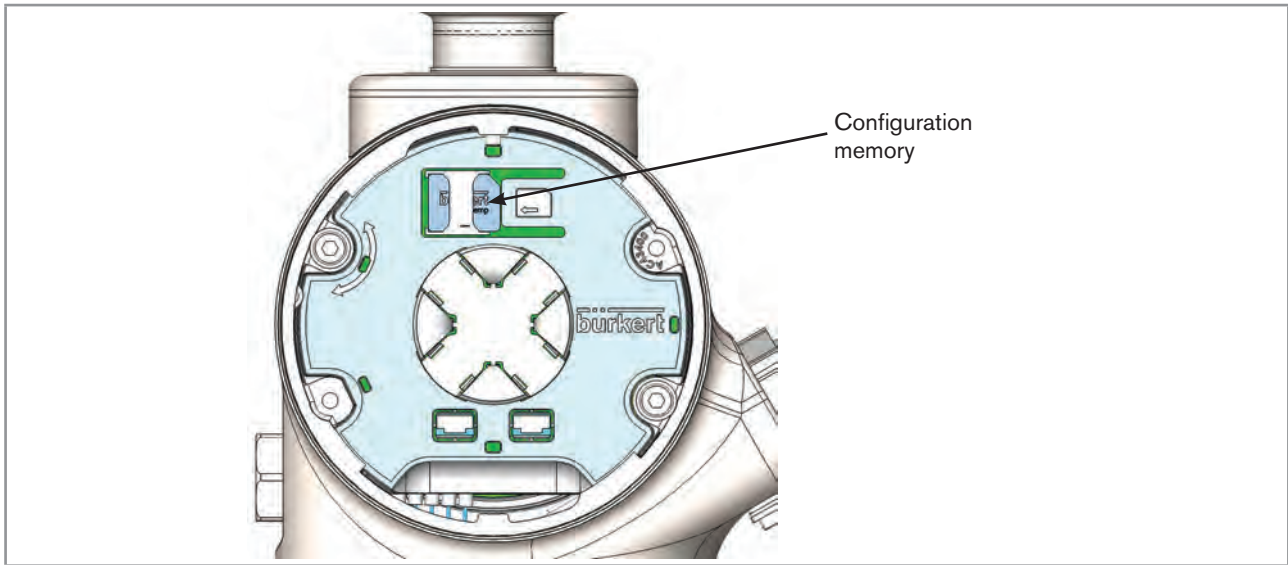

Fig. 48: Location of the configuration memory (SIM card)
- Make sure a configuration memory (SIM card) is inserted in its slot on the device. Refer to Fig. 48 or to the parameter **Transferable memory status** described in chpt. 12.2.9 Reading out the status of the configuration memory.